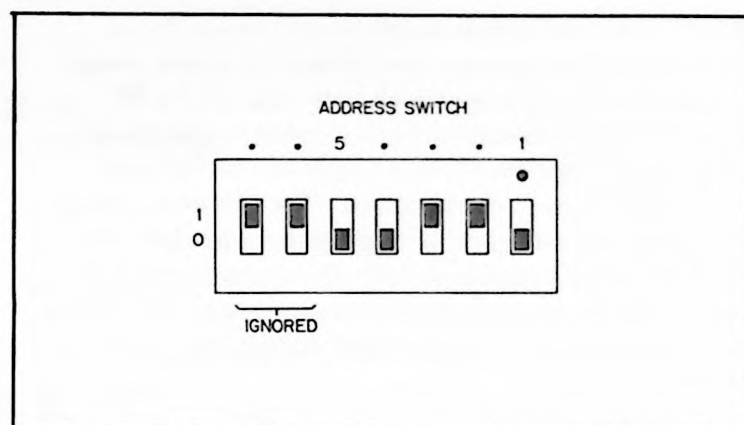

Figure 2-4. Listen Address Switches on Rear of 59501B
2-23 The listen address for the 59501B is selected by address switches on the rear of the unit. The switches are factory set to the suggested listen address of & when the unit is shipped from the factory. As shown in Figure 2-4, there are seven address switches. The last two switches, 6 and 7 (XX), are ignored (have no affect). Switches 1, 4, and 5 are set to "0" and switches 2 and 3 are set to "1" to select a listen address of "&". Note that "&" is the suggested listen address and is one of 31 listen address possibilities. The address switch settings for each of the 31 listen address possibilities are listen in Table 2-1.